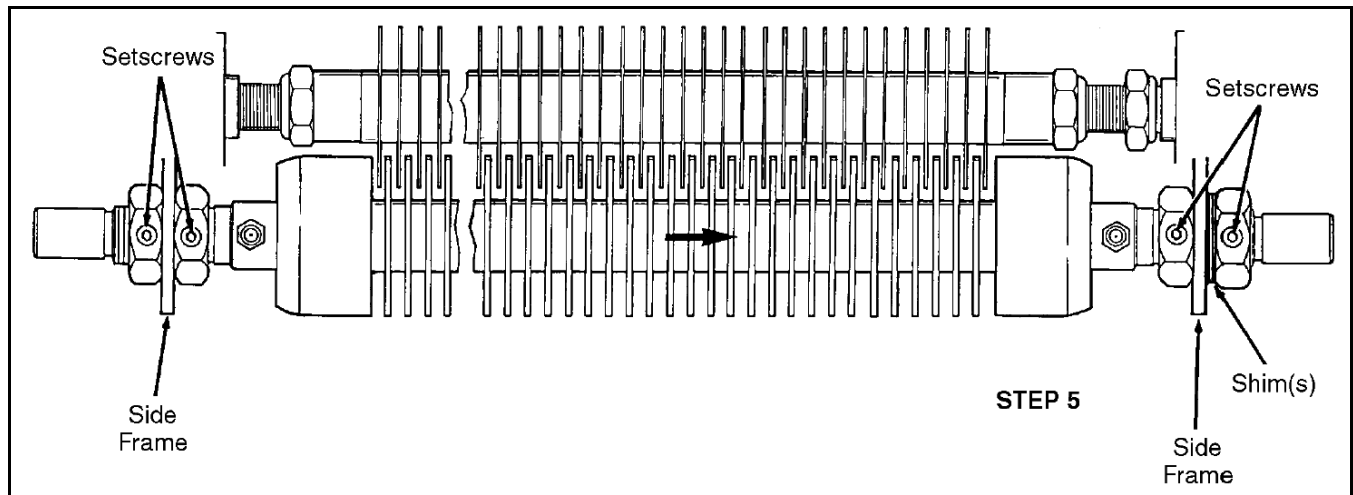

Figure 13C-3. Roller Installation Alignment
1. Loosen the setscrews in the roller nuts (Figure 13C-3).
1. Remove the belt case cover and loosen the belt adjusting eccentric. Remove the bearing retainer capscrew (Figure 13C-4).